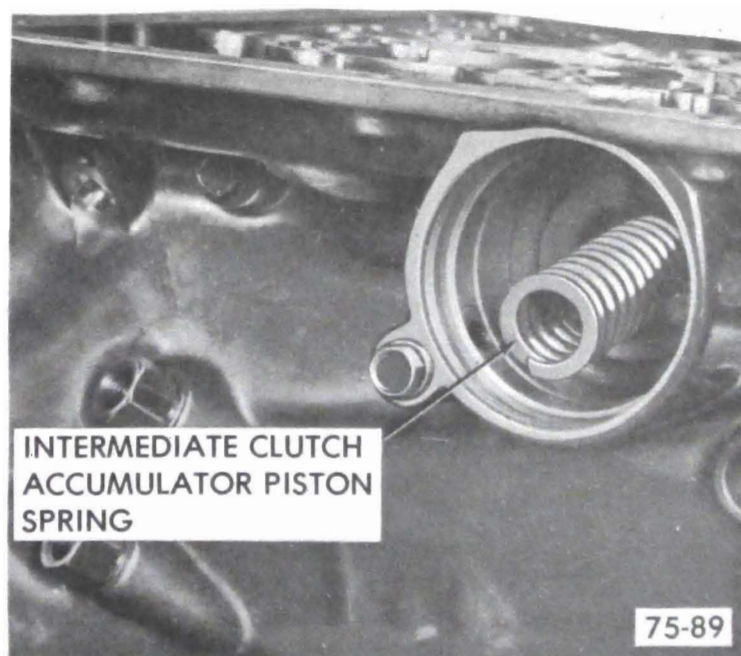

Figure 75-126
3. Remove intermediate clutch accumulator piston spring. See Figure 75-126.
2. Install intermediate clutch accumulator piston spring. See Figure 75-126.